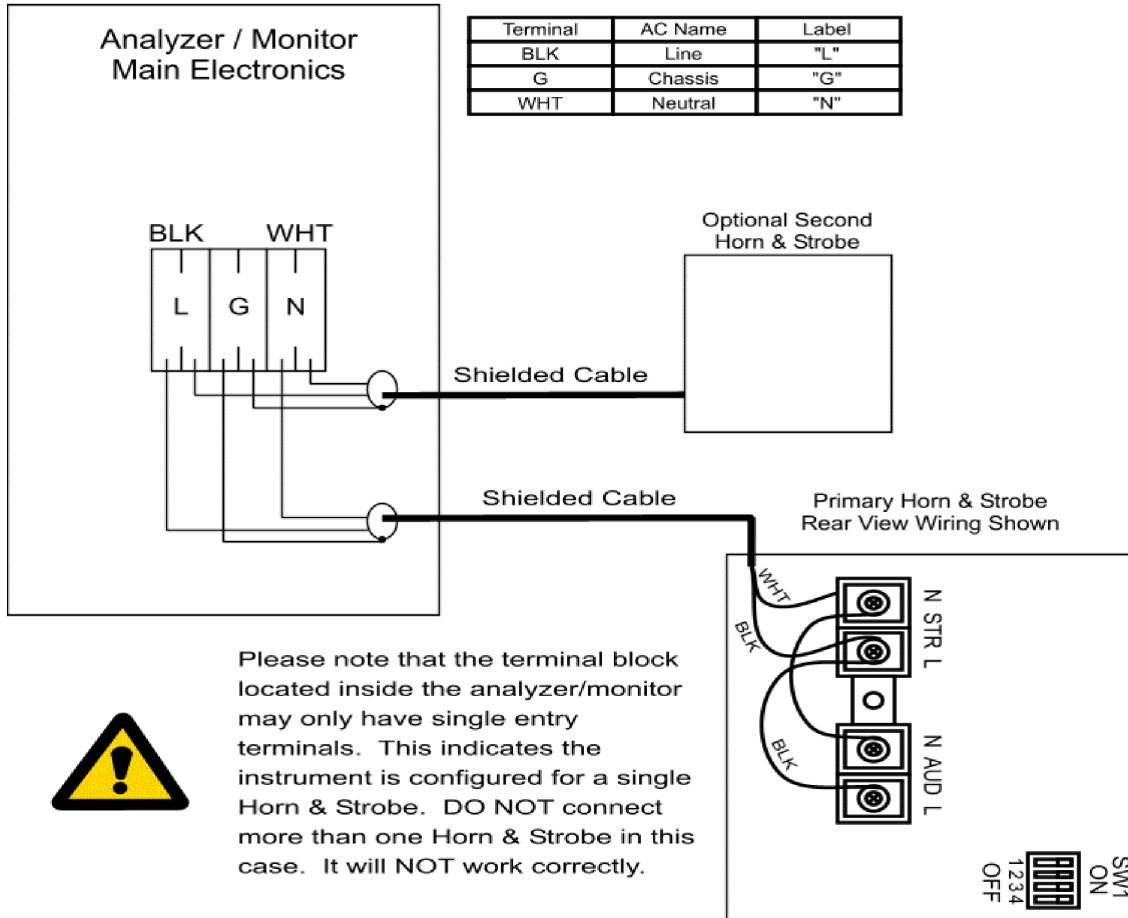

Figure 12-2: AC Powered Horn and Strobe
After mounting the Horn & Strobe Alarm Annunciator chassis in the desired location, wire it to the Series 1000 Oxygen Deficiency Monitor. Figure 12-2 provides wiring information.
6. Insert the Instrumentation wire into one of the conduit entry holes and terminate the wires as shown in Figure 12-2